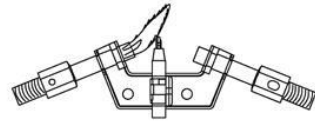

Figure 21 -Correct Pilot Flame Pattern
2. Inspect pilot flame and refer to Figure 21 and 22.
- Figure 21 shows a correct pilot flame pattern.